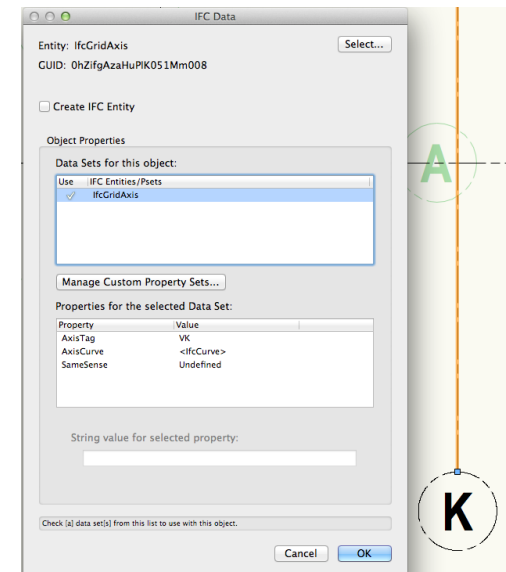

Figure 16 – String Value for IFC Grid Axis.
3. Choose AxisTag, enter the prefix “V” and the letter of the grid in the field for “String Value for Selected Property” (Figure 16). Click OK.